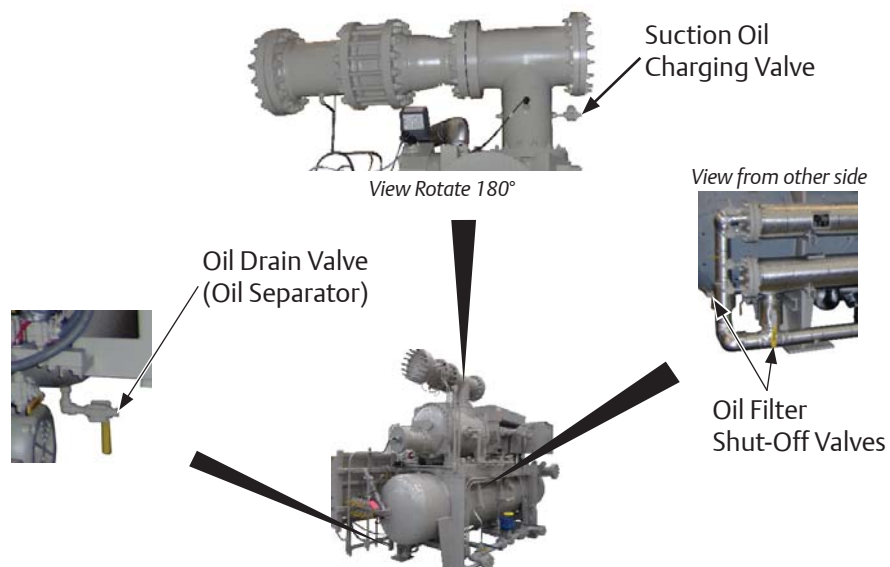

Figure 3-16. Suction Oil Charging Valve, Oil Cooler Drain Valve and Oil Filter Shut-Off Valves
- Using a properly selected oil pump, connect oil pump to suction oil charging valve (1). For suction oil charging valve location, see Figure 3-16.
- Open suction oil charging valve (1) and fill oil separator (3) to Normal Operating Level.